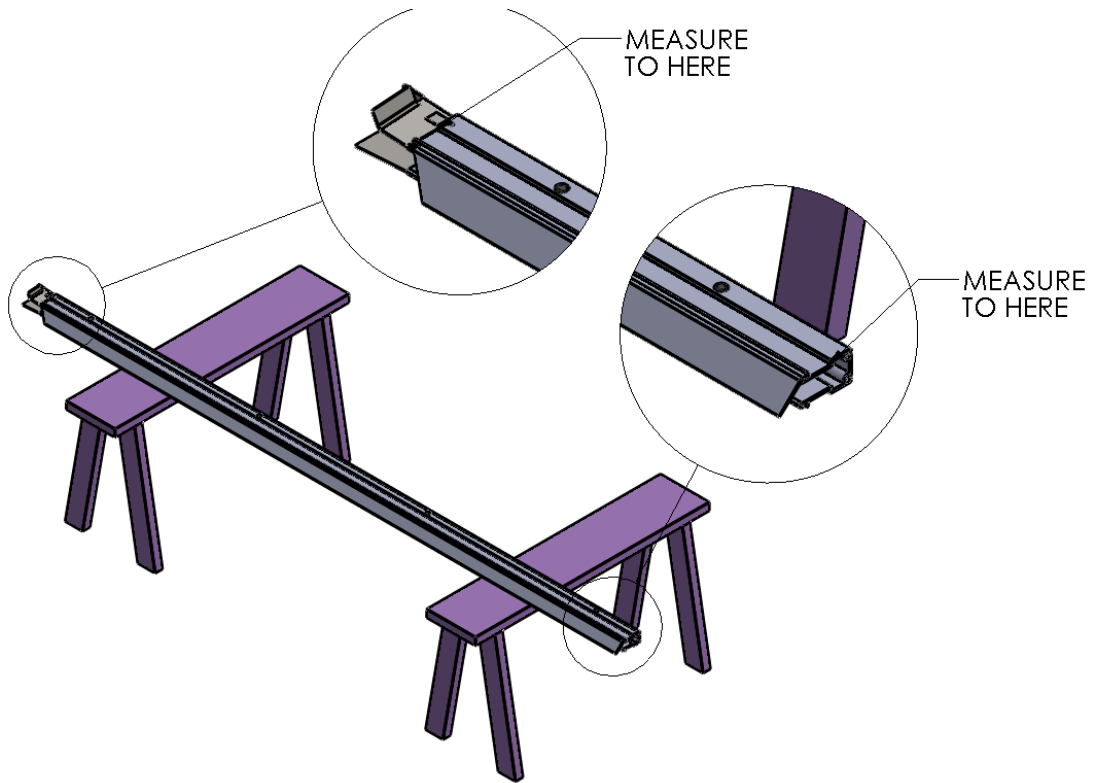
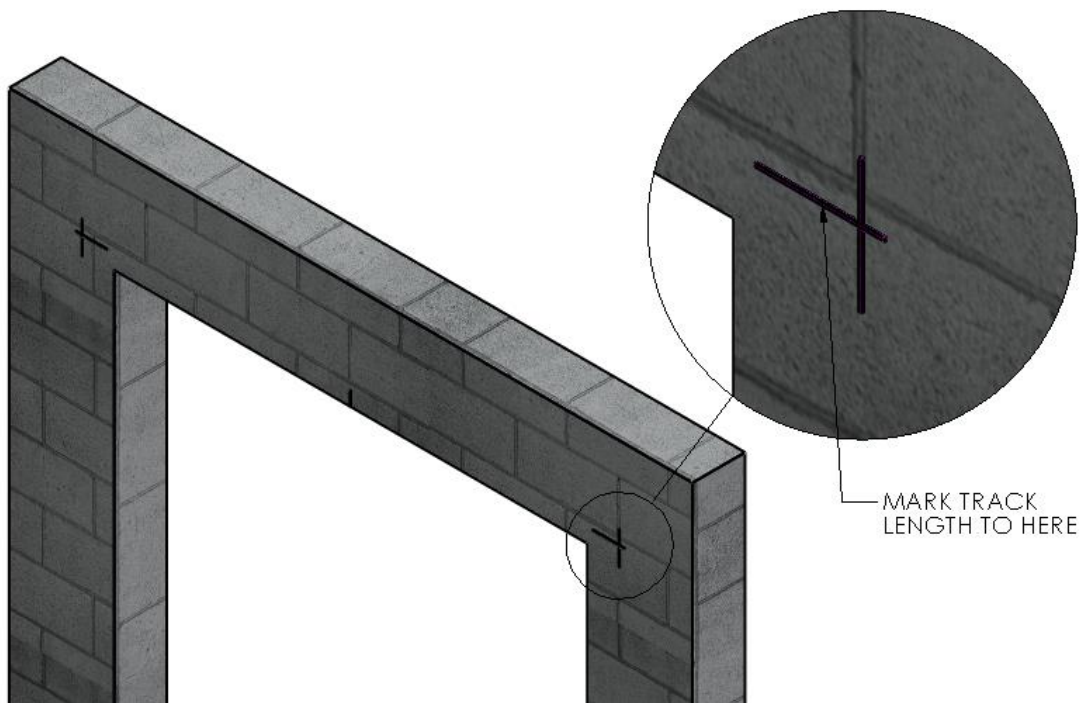

Figure 4 MEASURE TRACK HEIGHT
Figure 5 MARK TRACK HEIGHT
5. Set one of the Vertical Track Assemblies on your work surface and measure the length of the vinyl Track only. ADD 3-1/4" to this number and take note. This is the height dimension needed to mark the location of the bottom edge of the Header Mounting Brackets. With this number, add a horizontal line on each side of the opening that intersects the previously drawn vertical line marking the overall width of the roll assembly. (Figure 4 MEASURE TRACK HEIGHT) (Figure 5 MARK TRACK HEIGHT)
6. Using two (2) people, and two ladders at minimum, raise the Header Assembly to fit between, and above, your markings on the wall. Trace the insides of its oval mounting slots onto the wall mount surface (a Sharpe permanent marker works great for this). Be sure that that its bottom edge is on the height line, and that the outer edge is on your vertical overall width line.
7. Predrill through the centers of the traced locations for the mounting hardware, three (3) pilot holes on each side. Using adequate mounting screws or bolts (depending on your building/surface material) attach the header offset brackets to each side of the opening.